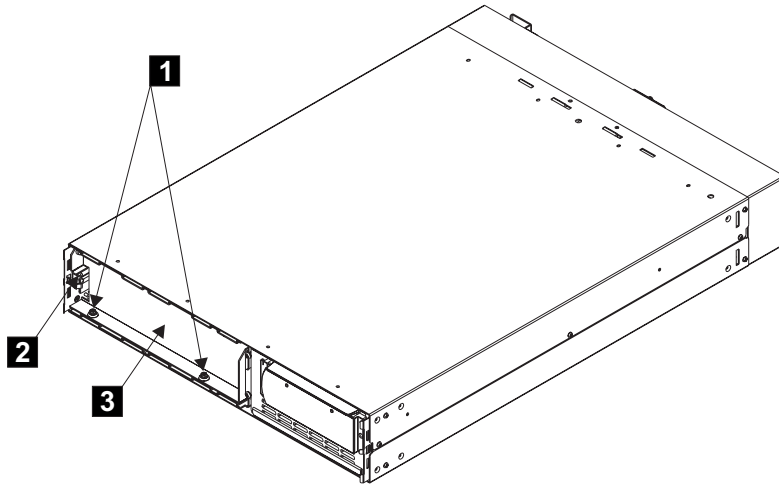

Figure 178. Removing the battery retaining bracket
- a. Remove the two bolts **1**. See Figure 178 on page 388.